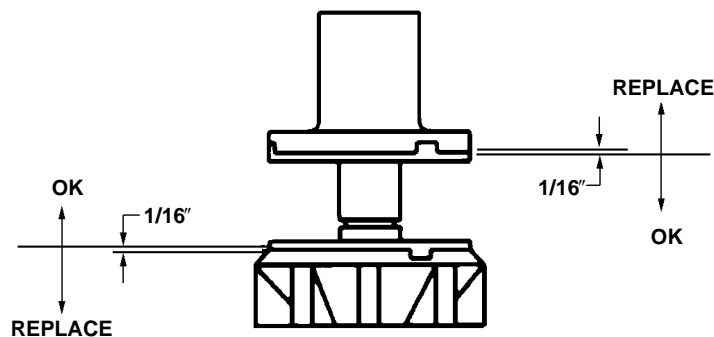

FIGURE 12. UPPER NUT AND BEARING ASSEMBLY
7. Check white upper bearings on auger assembly. If bearings are less than 1/16" thick, replace. See Figure 12